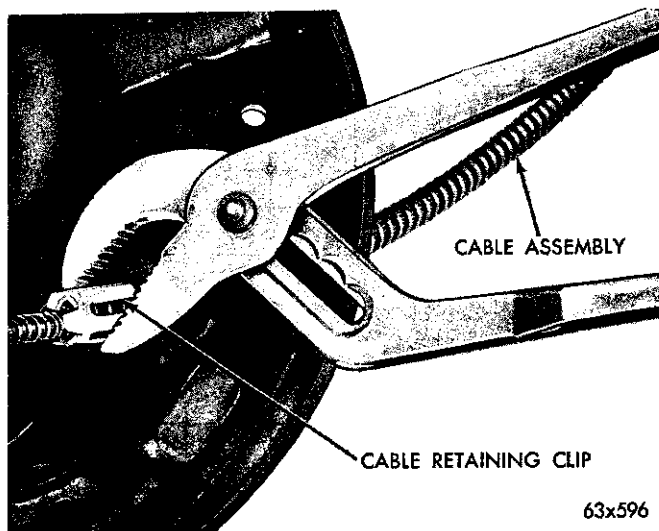

Fig. 9—Removing Brake Cable From Support Plate
(1) With the wheel and brake drum removed, remove the backing plate attaching nuts and washers.
(2) Remove the rear axle shaft and retainer.
(3) Disconnect the hydraulic brake line from the wheel cylinder.
(4) Disengage the brake cable from the parking brake lever.
(5) Using a suitable tool compress the three flared legs of the cable retainer and pull the brake cable out of the support plate (Fig. 9).
(6) Remove the brake support plate from the rear axle housing.
- (1) With the vehicle jacked up or on a suitable hoist, remove the rear wheels.
- (2) Remove the brake drum from the rear axle.
- (3) Remove the brake shoe return springs.
- (4) Remove the brake shoe retaining springs.
- (5) Remove the brake shoe strut and spring from the brake backing plate and disconnect the brake cable from the operating arm.
- (6) Compress the retainers on the end of the brake cable housing and remove the cable from the brake plate (Fig. 9).
- (7) Disconnect the brake cable from the "C" clamp.
- (8) Remove the retaining clip from the brake cable bracket and remove the cable assembly.
- (7) Remove the retaining clip from the brake cable bracket.
- (8) Disconnect the brake cable from the equalizer.